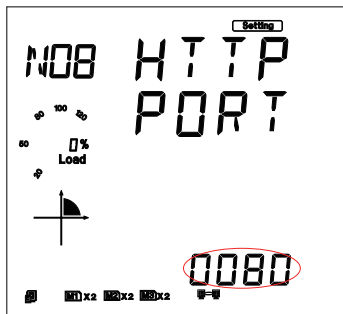

Fig 5-36
10. Set HTTP port in the eighth setting page, such as 80. Press the "V/A" key to go to the setting page. Users may set the parameters pointed out in Figure 5-36. The cursor starts at the first digit. After setting the HTTP port, press the "V/A" key to accept. Press the "P" key to go to the ninth setting page for the reset mode. The HTTP port's default value is 80, and the user defined range of port is 6000~9999. If the set port is not in the correct range, the set port will return to the default value.